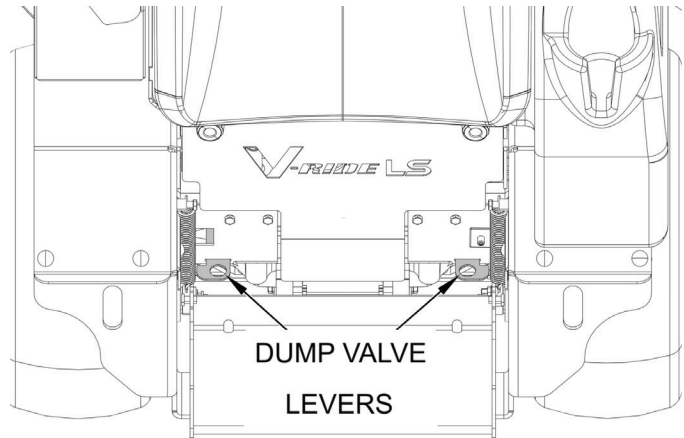

Figure 4-1. Dump Valve Location
15. **Dump Valve Controls (Figure 4-1):** Located on the left and right side of the foot guard plate and used to "free-wheel" the mower. Pushing the levers in allows the machine to move under hydraulic power. Pulling the levers out allows the machine to be moved by hand (free-wheeling). See Figure 4-1.